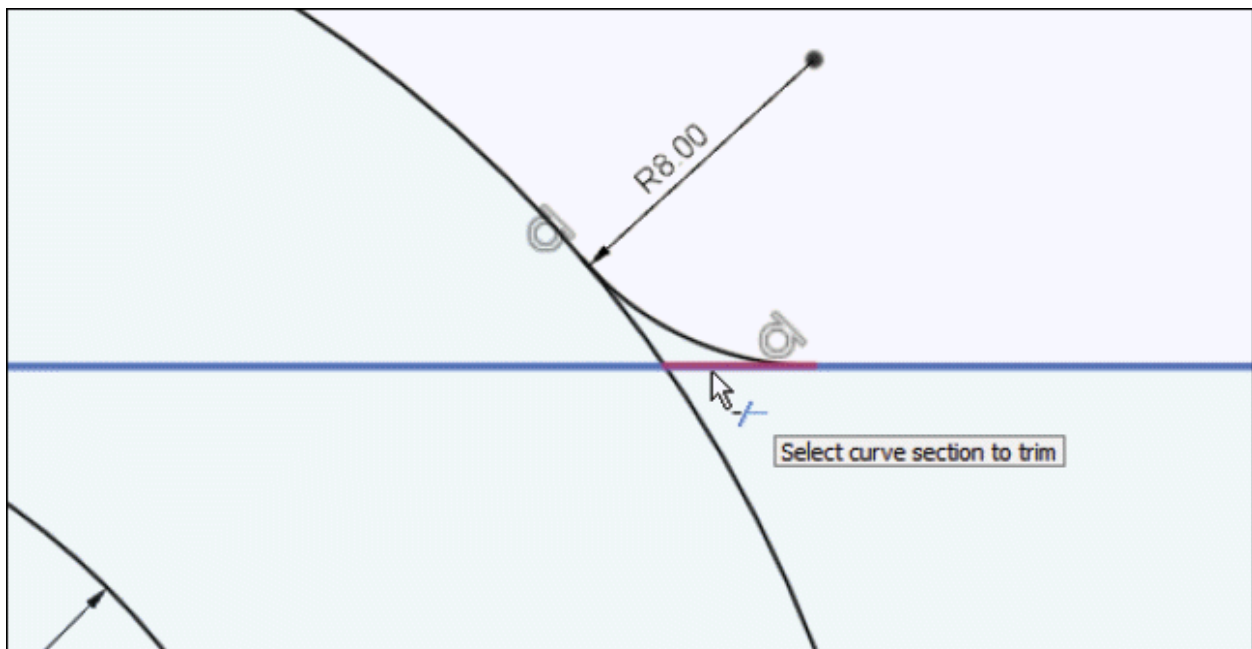

Figure-41. Removing extra entities
- Select the **Trim** tool from **MODIFY** drop-down and remove extra entities from sketch as shown in Figure-41.